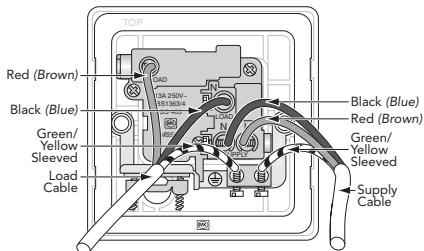

Fig. 2 Supply and non flexible load cables
- Connect the cables to the correct **SUPPLY** or **LOAD** terminals, as shown in **figure 2**.